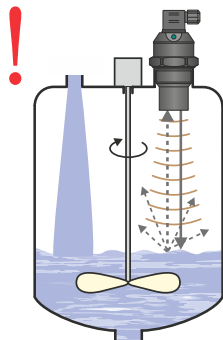

Fig. 11: Moderately stirred surface
- The ultrasonic signal can be scattered or attenuated if the surface is **moderately stirred** or **rippled** (due to a mixer, inflow of liquid, etc.). This may result in reduction of the measurement range or unreliable operation of the device (Fig. 11). For a **rippled** or **swirling level**, you can use the **directional horn** to eliminate scattering of the ultrasonic signal.